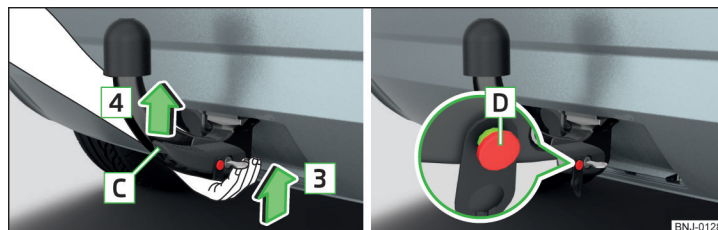

Fig. 155 Insert ball rod / trigger bolt in the extended state
- Grip the tow bar **from underneath** » Fig. 155 and insert into the mounting recess in arrow direction **3** until you hear it click into place » **!**.